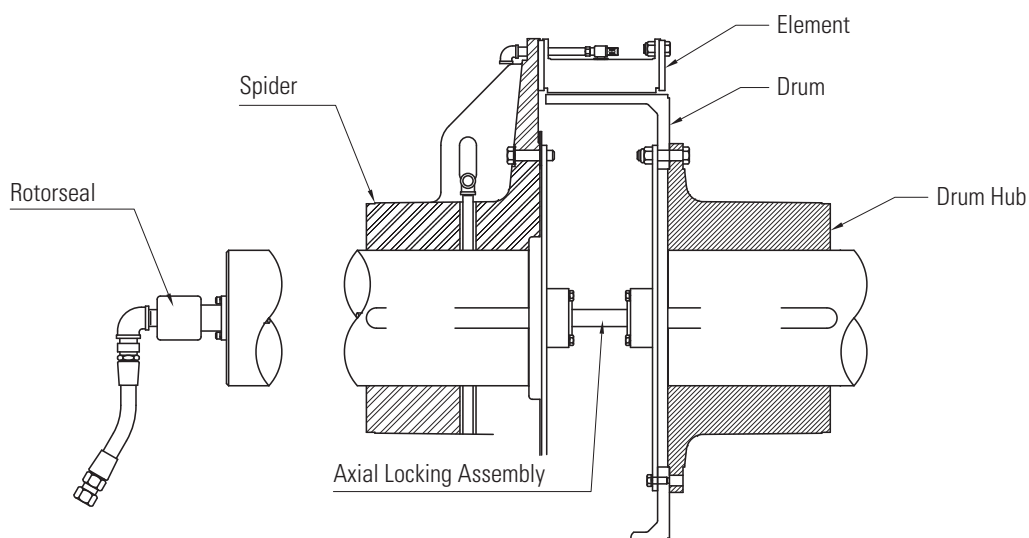

Figure 5
- 2.1 Airflex TLC applications are available in a single-wide mounting configuration. See Figure 5. The TLC configuration is determined by the motor horsepower, nominal full motor RPM, the allowable motor overload (service factor) for mill start up and operation. All TLC's are supplied with axial locking devices.